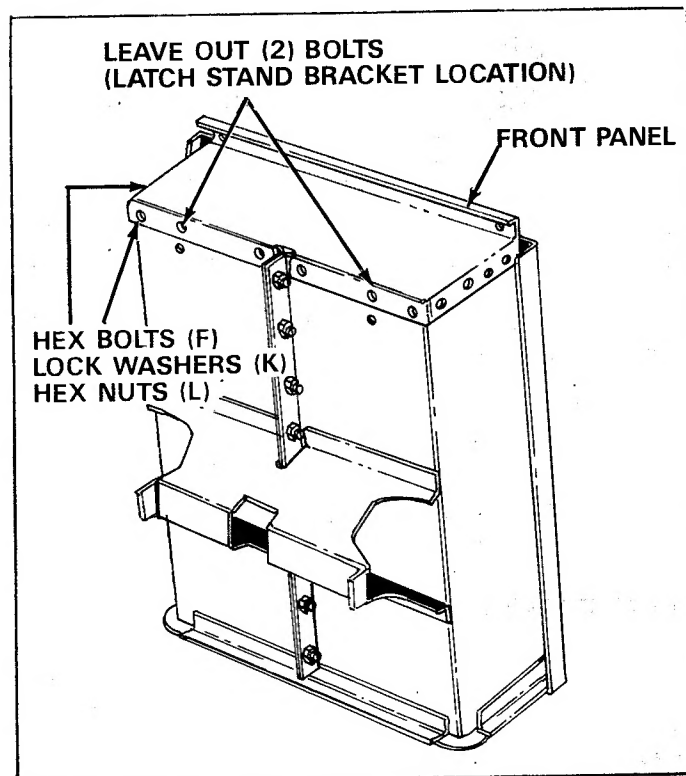

FIGURE 7
12. Assemble front panel to open end of cart body, using 1/4" x 1/2" hex bolts (F), lock washers (K) and hex nuts (L). Bolt heads to inside of cart. Leave out (2) bolts for latch stand bracket. See figure 7.